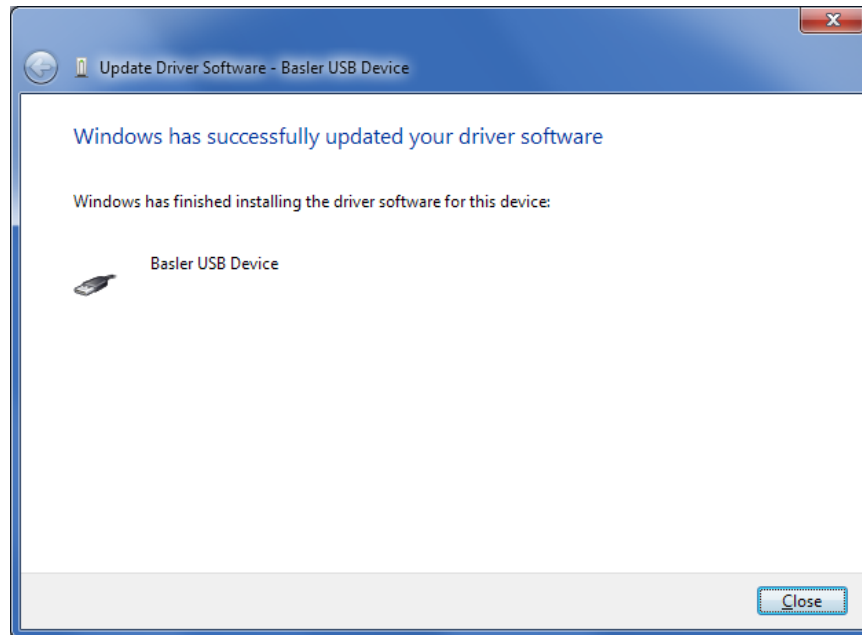

Figure 45-7. Driver Software Update Successful
Step 7. The window in Figure 45-7 appears if driver installation was successful.